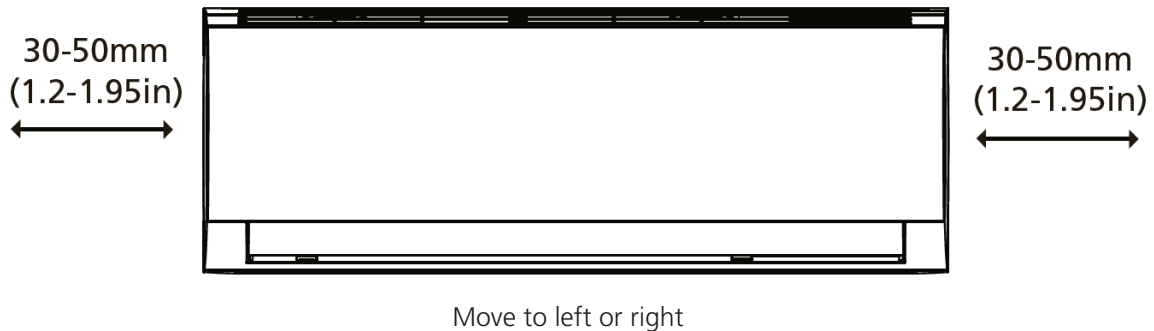

**Fig. 4.11**
2. Use the holder in the mounting plate to prop up the unit, giving you enough room to connect the refrigerant piping, signal cable, and drain hose. Refer to **Fig. 4.11** for an example.